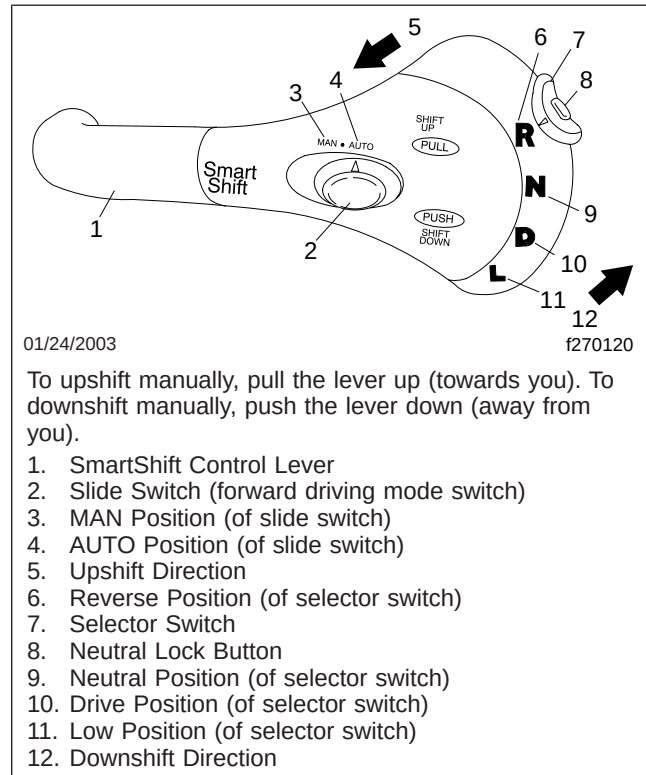
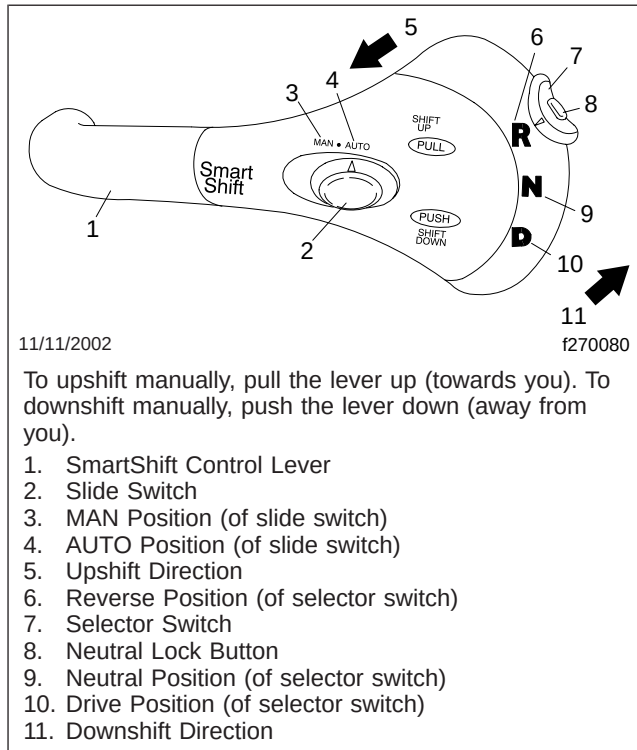

Fig. 8.1, Four-Position SmartShift Control (with Eaton Fuller transmissions)
Fig. 8.2, Three-Position SmartShift Control (with FreedomLine transmission)
For the Eaton Fuller automated transmissions, a four-position (R, N, D, L) selector switch (Fig. 8.1) is located at the end of the lever. For the FreedomLine transmission, a three-position (R, N, D) selector switch (Fig. 8.2) is located at the end of the lever.
- The SmartShift control paddle on the steering column. See Fig. 8.1.
A two-position slide switch (forward driving mode switch) is located near the end of the control (Fig. 8.1). The switch positions are labelled MAN (manual shift mode) and AUTO (automatic drive mode).
1. With the parking brake engaged and/or the brake pedal pressed down, select neutral (N) by pressing in the safety release and moving the selector switch to the center position. See Fig. 8.2.
3. With air pressure built up, select drive (D) by pressing in the safety release and moving the selector switch downward to the position below neutral. Release the parking brake and/or pedal.